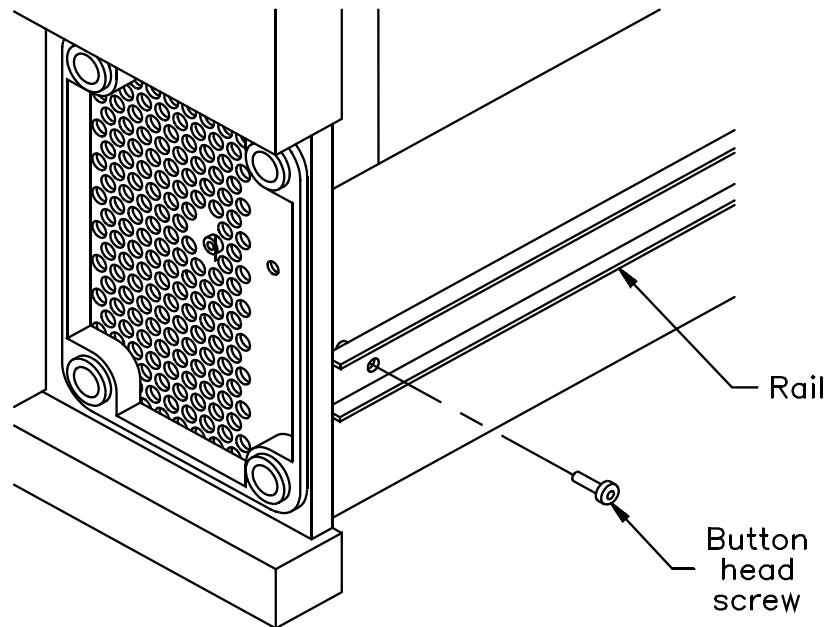

Figure 1-5 Attaching the screws to the sides of the library
6. Install one $8-32 \times \frac{7}{16}$ button head screw into the screw hole on each rail, as shown in Figure 1-5.